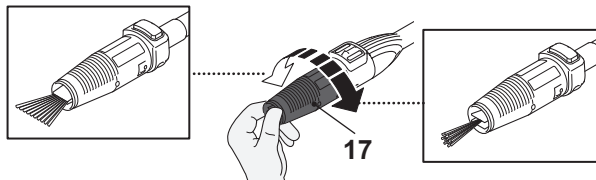

Fig. 13
- > Turn the vario nozzle to adjust the water jet according to the surface to be cleaned (Fig. 13).